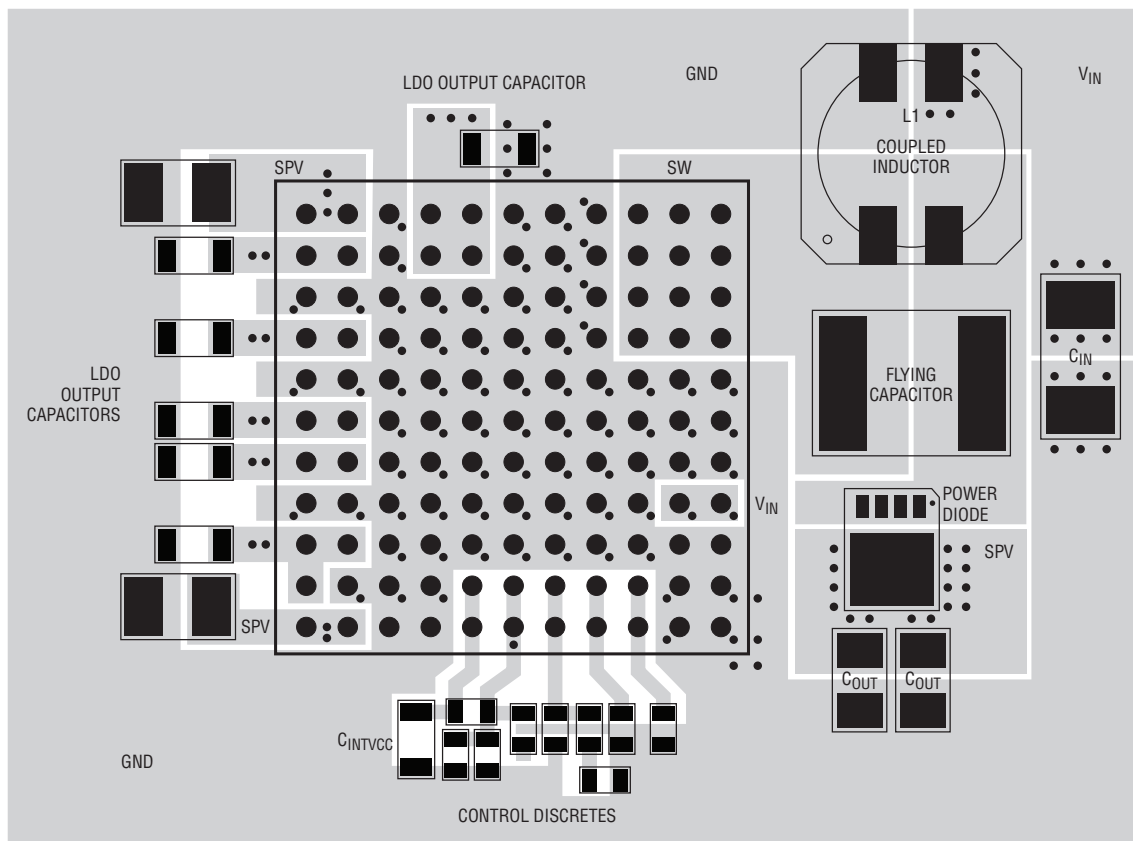

Figure 3. Layout Showing Suggested External Components, GND Plane and Interconnect/Thermal Vias
The LTM8008 is a switching power supply, so care must be taken to minimize EMI and ensure proper operation. Even with the high level of integration, you may fail to achieve specified operation with a haphazard or poor layout. See Figure 3 for a suggested layout. Ensure that the grounding and heat-sinking are acceptable. Here are additional tips to follow:
- For good heatsinking, use vias to connect the GND copper area to the board's internal ground planes. Liberally distribute these GND vias to provide both a good ground connection and thermal path to the internal planes of the printed circuit board. Pay attention to the location and density of the thermal vias in Figure 3. The LTM8008 can benefit from the heat-sinking afforded by vias that connect to internal GND planes at these locations, due to their proximity to internal power handling components. The optimum number of thermal vias depends upon the printed circuit board design. For example, a board might use very small via holes. It should employ more thermal vias than a board that uses larger holes.